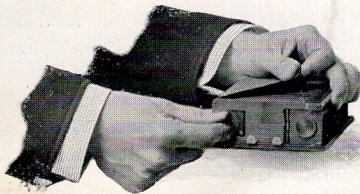

FIG. 2.
V. Holding the black paper taut with the left hand, bear on the ratchet wheel with the thumb and first finger of the right hand and turn to the left (see Fig. 2) until the paper is all on the reel and fasten it securely by moistening the gummed end and sticking it down.